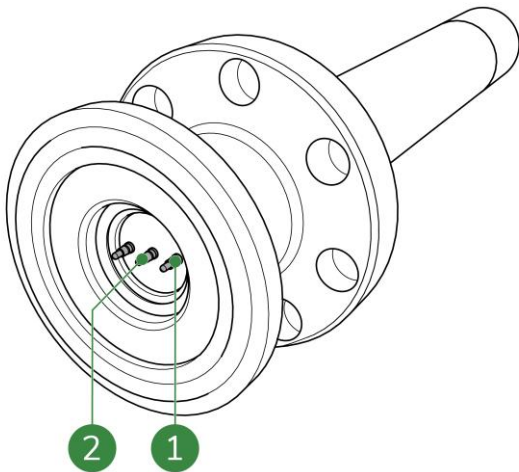

Figure 9-2: Sensor connection
6. Measure the resistance of the sensor connection pins. The resistance results in overload. Measure between the inner and outer connection pin (Figure 9-2, pos. 1 and 2).